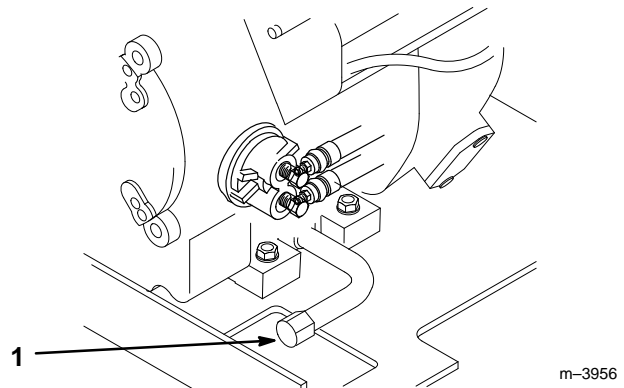

Figure 17
3. Place a pan below the oil drain. Remove the oil drain cap (Fig. 17).
- Place a pan below the oil drain. Remove the bottom plug (Fig. 17).